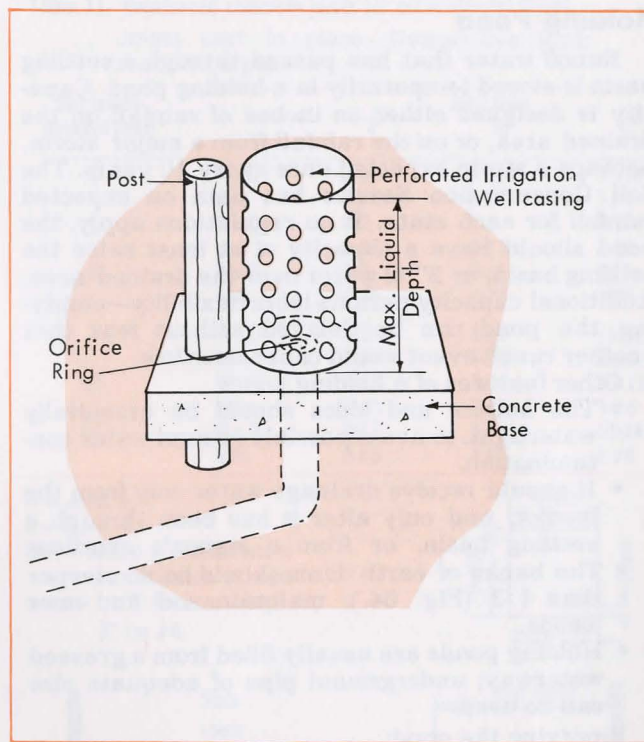

Figure 63. Perforated Outlet.
- Removing liquids to the holding pond after solids have settled. Liquids may be pumped or drained with perforated outlet. (Fig. 63)